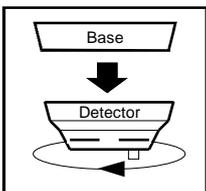

Fig. 2
- 1) Remove the base from the detector by rotating it counter clockwise (see Fig. 2).